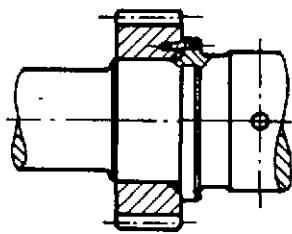

Fig. 1
2. The D 302-2 and D 302-3 crankshaft timing gear is pinned axially to the crankshaft collar for proper alignment. (See Figure 1.)